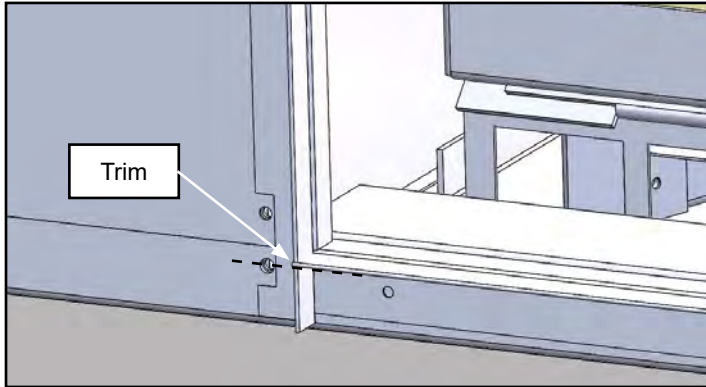

Figure 12.4.03:
Install the tile finishing strips using the (9) 1/8" rivets included. Never place combustible material over the face of the fireplace. See **Figure 12.4.03** for finishing details.